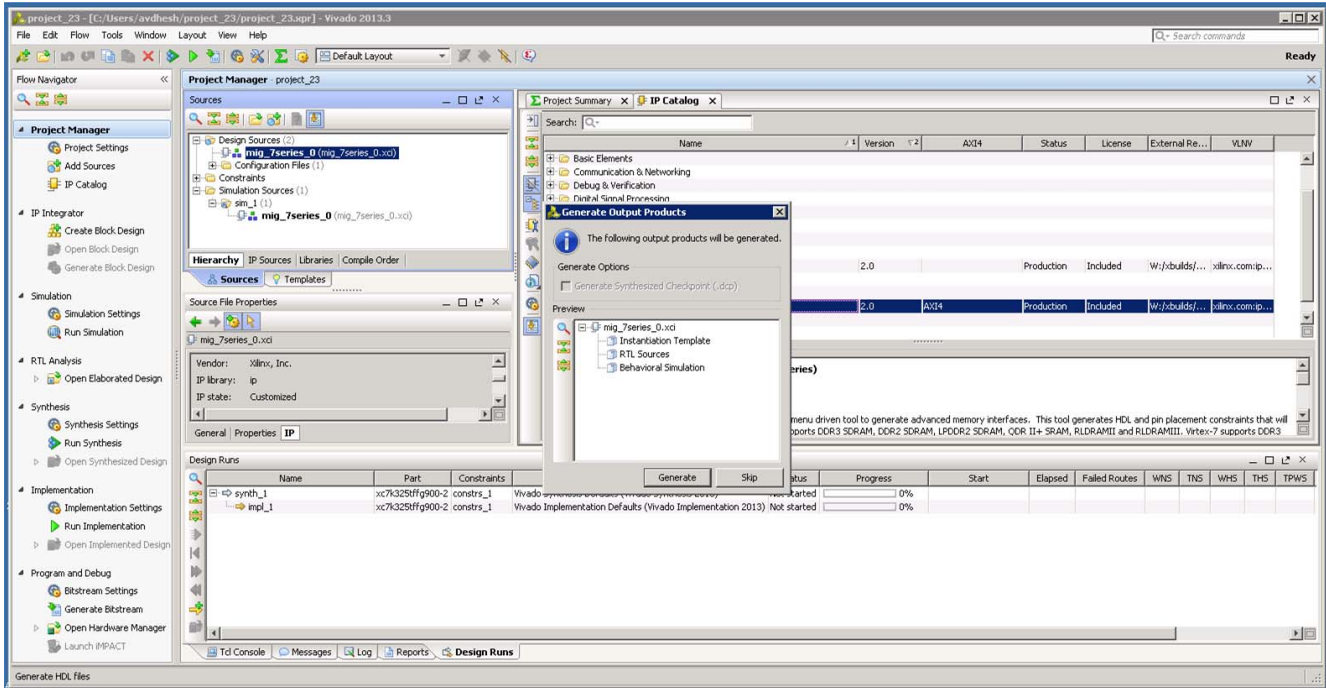

Figure 4-32: Generate Window
- Clicking **Generate Output Products** option brings up the **Manage Outputs** window (Figure 4-32).